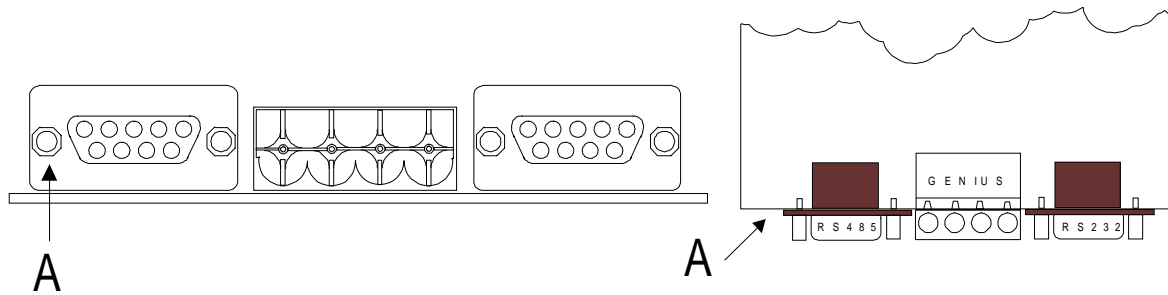

Figure 8.4 – Jack Screw
- c. Using a 5/16 nut driver loosen the jack screw labeled "A" in Figure 8.4 enough to be able to slide the terminal connector onto the stud between the nut and the jacket of the RS485 connector.